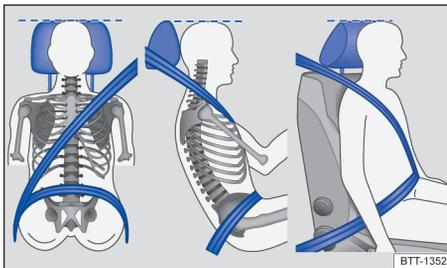

Fig. 29 Correct seat belt routing and head rest adjustment.
Seat belts only provide an optimum level of protection during an accident and reduce the risk of severe or fatal injuries when they are routed correctly. Correct seat belt bands routing also holds the vehicle occupants in position so that an inflating airbag can offer the maximum level of protection. Therefore, always fasten your seat belt and ensure that the seat belt routing is correct → Fig. 29.
- The seat belt must always lie flat and firm against the body. Slightly stretch the seat belt if necessary → Fig. 29.